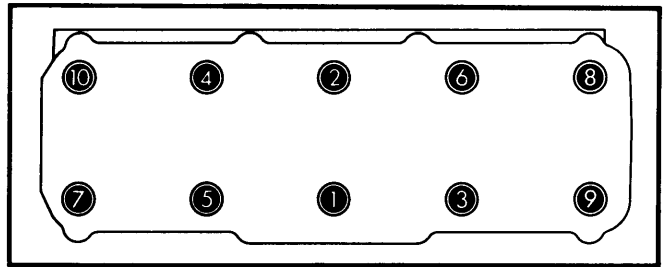

Fig. 2 Cylinder Head Tightening Sequence (Loosen in Reverse Order)
3) On 924, insert head bolts Nos. 8 and 10 first to center head. With engine cold, tighten bolts in numerical sequence shown in Fig. 2. Mark position of bolt head and then turn each bolt an additional 1/2 turn (180°) in sequence.